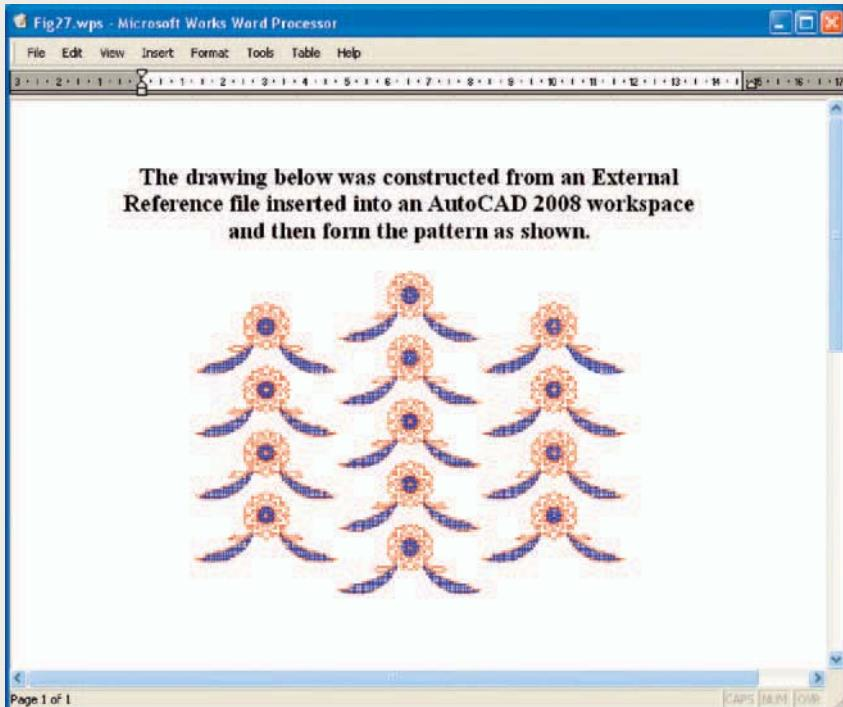

Fig. 10.31 Exercise 4 – an example
4. Using **Copy** from the **Insert** drop-down menu, copy a drawing from AutoCAD 2010 into a Microsoft Word document. An example is given in Fig. 10.31. Add some appropriate text.